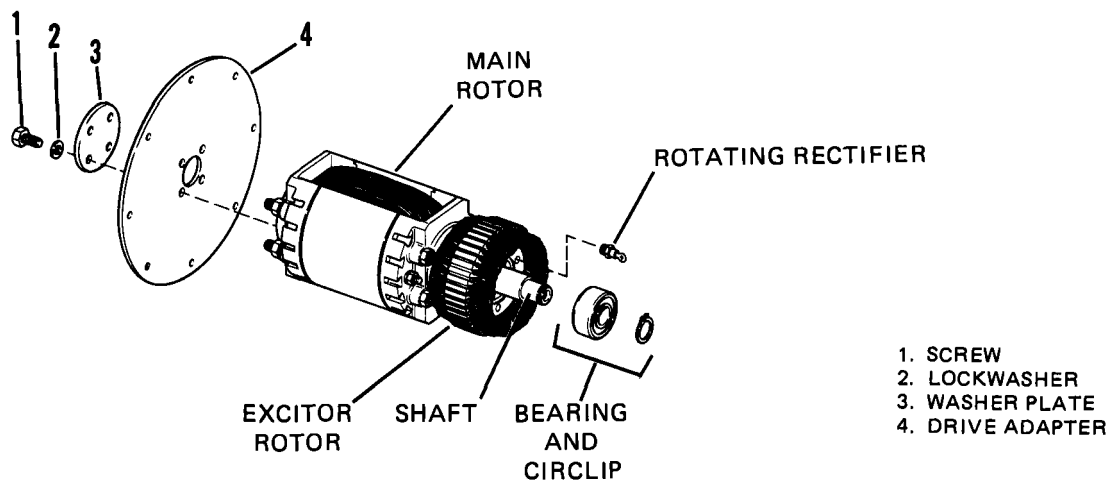

Figure 5-5. Rotor.
(1) Remove generator housing and stator assembly, refer to paragraph 2-10.
(2) Remove screws (1, Figure 5-5), lockwashers (2) and washer plate (3).